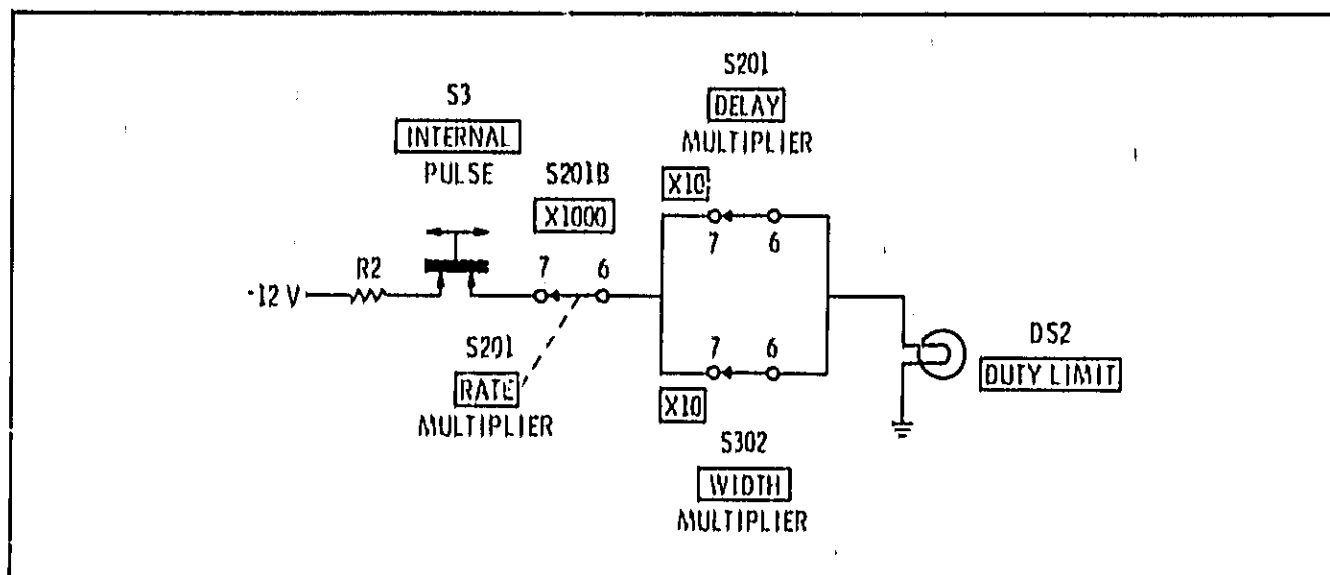

Figure 4-14. Duty Limit Circuit
4.30. The duty limit circuit is shown in Figure 4-14. The maximum duty cycle of the instrument is dependent on pulse-rate, delay and width range switch settings. To ensure that control settings do not result in a pulse which exceeds the duty cycle limit, a duty-limit circuit is provided for the internal pulse mode only. If duty limit is exceeded, the Duty Limit Lamp (D32) will light.